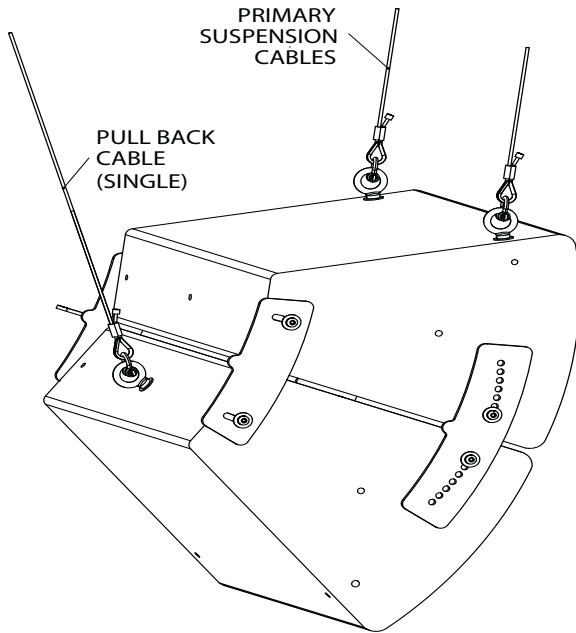
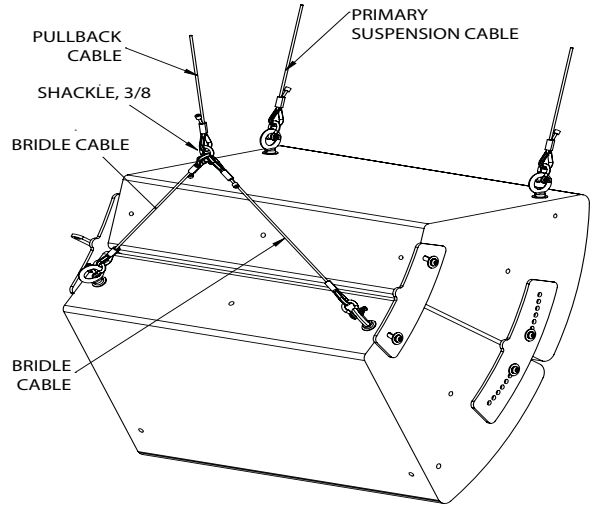

Figure 3A
Figure 3B
Step 8: Use the eyebolts on the top of the speaker cluster as the main speaker suspension points. Use the rear lower eyebolts of the lower speaker for pull back points and adjust the tilt angle of the speaker cluster assembly (Figure 3B). All eyebolts can be used for four suspension points or the rear can be bridled to create a single pull back point (Figure 3B).
Step 6: Lay the speaker cluster on its side then install eyebolts to the side rigging points (now top) of the speaker as shown (Figure 3A & 3B). Install eyebolts on the rear rigging points of the lower speaker. Use either single pull back points (Figure 3A) or a double pull back point (Figure 3B).
Step 7: Use the eyebolts on the top of the speaker cluster as the main speaker suspension points. Use the rear lower eyebolts of the lower speaker for pull back points and adjust the tilt angle of the speaker cluster assembly (Figure 3B). All eyebolts can be used for four suspension points or the rear can be bridled to create a single pull back point (Figure 3B).